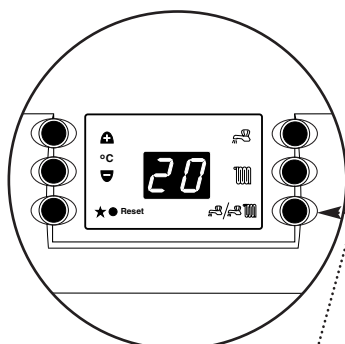
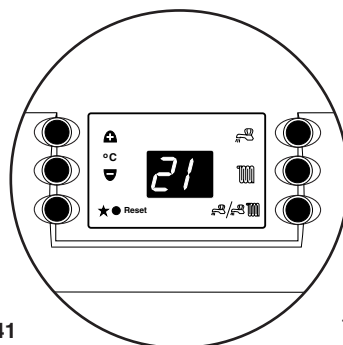

Fig. 40
Fig. 41
6. Press the Summer/Winter Mode Button marked () and the display will show “20” (Fig. 40). The “2” indicates that the installer parameter for pre-heat has been selected. The “0” indicates that the pre-heat is switched off. Press the “+” Temperature Control Button to change this to “21” (Fig. 41), with the “1” indicating that the pre-heat is switched on. 1 minute after the parameter has been set the display will revert to normal operation.